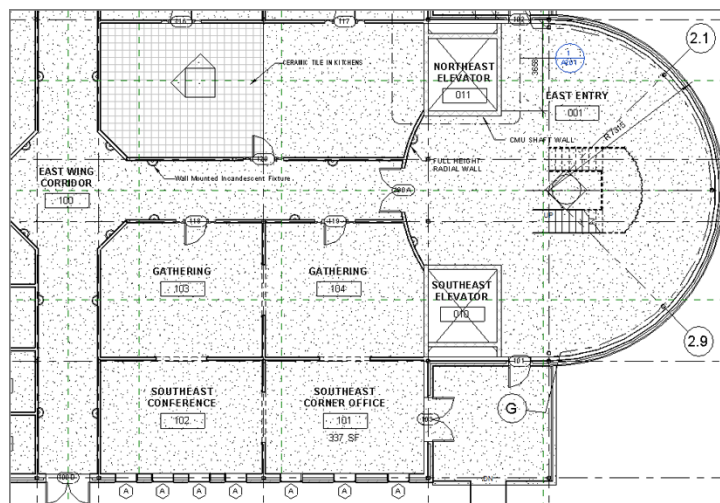

FIGURE 15.4: The first floor layout up to this point
2. Place a room in the adjacent area, as shown at lower left in Figure 15.4.
3. Call the room **SOUTHEAST CONFERENCE** (see Figure 15.4).